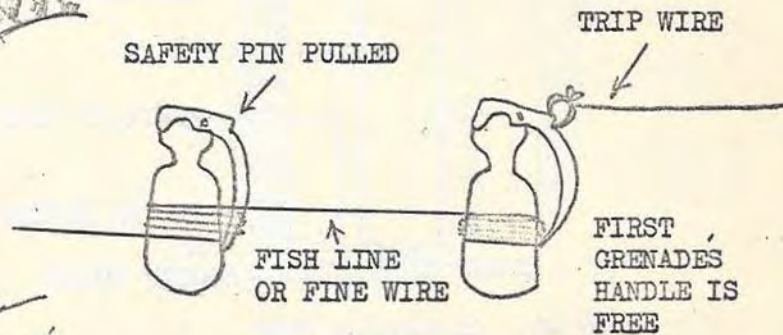

FIGURE 64. GRENADE DAISY CHAIN
e. Grenade Daisy Chain: The daisy chain of grenades is made by first attaching a grenade to a tree or bush and tying it in such a manner that the handle is free to activate if the safety pin (which is attached to a trip wire) is pulled. Successive grenade handles are held under tension by a line from the preceding grenade. All grenades but the first one have their safety pins pulled. When the trip wire to the first grenade is tripped, the safety pin is pulled and the safety handle flies off, allowing the grenade to detonate. As the grenade detonates, it releases the string to the next grenade allowing the handle to fly free, detonate and, in turn, release subsequent grenades in the line. Placed along a trail, this arrangement is very effective against closely spaced members of a patrol (Figure 64).